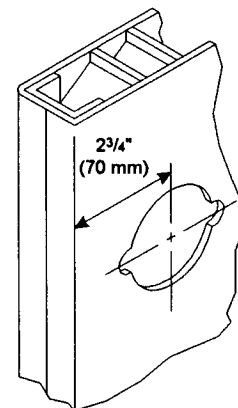

Figure 2
- Extend horizontal and vertical lines of cut-out (See Figure 2).